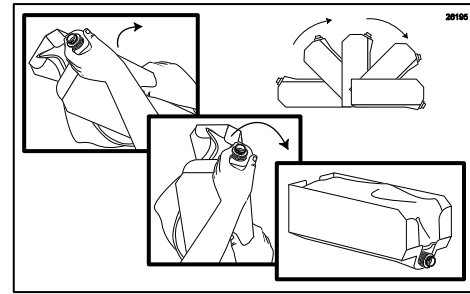

Figure 161
7. Holding the fitment in place, raise the open end of the tray and flip the tray right side up. As the tray is set back down, allow the bag to settle in the tray. (See Figure 161.)